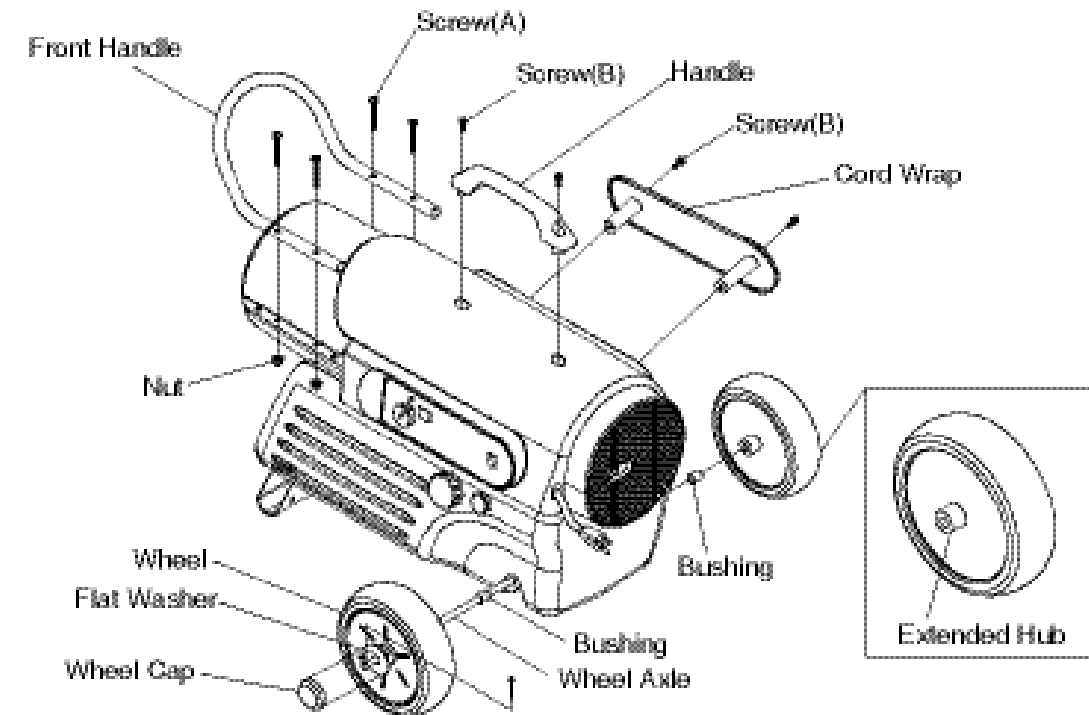

Figure 8. Wheel and Handle Assembly, RMC-KFA120TDLX/RMC-KFA170TDLX Models Only.
- 1) Slide one Wheel & Bushing over the Wheel Axle, making sure that the extended hub of the wheel points towards the wheel points towards the Wheel Support(See Figure 8,Page 6).